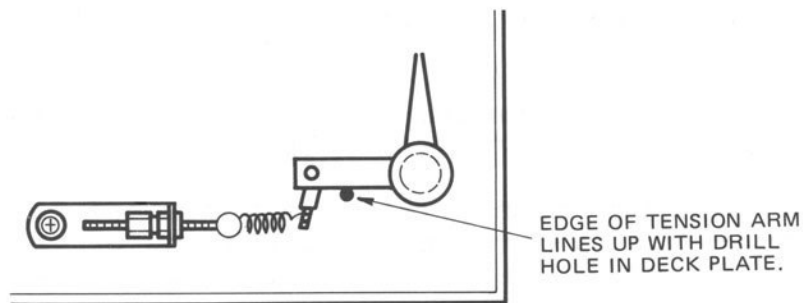

Figure 4-10 Tension Arm Position Adjustment
- (2) Adjust VR4 on the Reel Control PCB until the front edge of the Take Up Tension Arm is even with the drill mark in the deck plate, while in Load mode. Refer to Figure 4-10.
- (3) Place the machine in Play briefly to confirm the position of the Tension Arm.